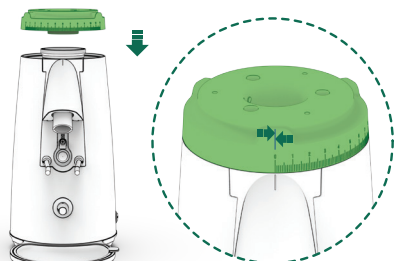

Fig. 7
**11.3.5** When reassembling the regulator, match the point 0 close to the position indicator (**Fig. 7**) and tight the screws back on.